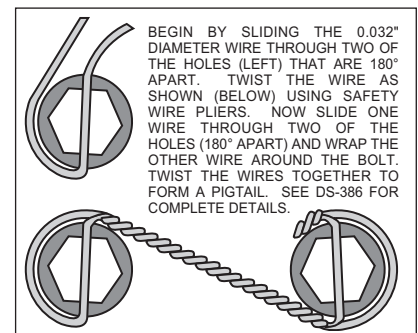

Figure 4. Safety Wire Diagram
- With the slot pointing upward and the mounting ears pointing towards the rear of the vehicle, install the caliper mounting bracket (1) to the housing flange using the stock Original Equipment Manufacturer (OEM) bolts and nuts. Stock OEM hex nuts that retain the bracket (1) should be on the wheel side of the bracket. Apply red *Loctite*® 271 to the stock OEM bolt threads and torque to OEM specifications. **NOTE:** Some brackets act as the bearing retainers, while others help locate the bearing in the axle housing flange. If the stock bearing plates are still on the axle, the caliper mounting brackets (1) should be located between the axle housing flange and the bearing retainer plate. Make sure the heads of the caliper mounting bracket insert nuts are FACING OUTWARD TOWARDS THE WHEEL.
- Bolt the hat (2) to the rotor (3) using washers (4) and bolts (5). Torque bolts (5) to 180 in-lb. Safety wire bolts (5) using standard 0.032 inch diameter stainless steel safety wire as shown in Figure 4.
- Align the correct hole pattern in the hat (2) with the stud pattern on the axle flange. **NOTE:** Some OEM and after market axles come with stud sizes larger than 0.50" diameter. Verify stud size and have a qualified machine shop drill the hats to the correct size. Slide the hat/rotor assembly (2 and 3) over the wheel studs and against the axle flange face.